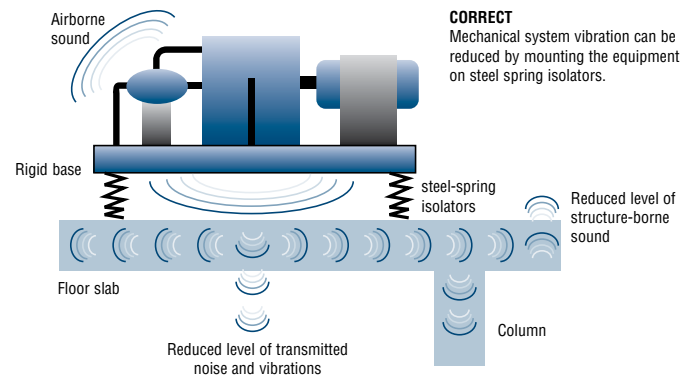

FIGURE 26
- If the HVAC system mechanical rooms are too close to your room the best solution is to relocate them. If this is not a possibility, contact an acoustic professional and determine what type of sound isolators could be installed to resolve the problem. Often, springs and neoprene isolators can “decouple” the equipment from the surrounding structure (figure 26).